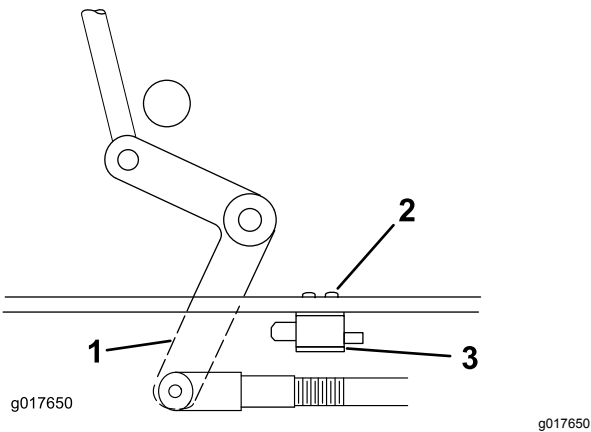

Figure 47
4. If needed, adjust the PTO-safety switch by loosening the bolts securing the switch bracket (Figure 47).
Important: Ensure that the bellcrank does not touch the switch body; otherwise, damage to the switch could occur (Figure 47).